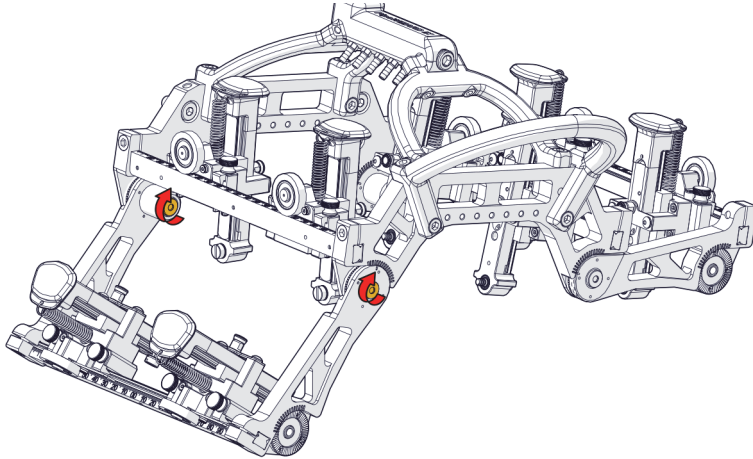

Figure 1-51 Tightening the screws
4. Tighten the screws, but do not fully tighten them at this time (see Figure 1-51 on page 62).